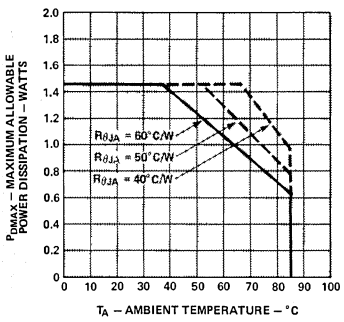

Figure 2. Maximum Allowable Power Dissipation vs. Temperature
2. The device should be derated linearly above 37°C at 16.7 mW/°C. This derating is based on a device mounted in a socket having a thermal resistance from case to ambient at 35°C/W per device. See Figure 2 for power deratings based on a lower thermal resistance.
The HDSP-2310 series displays are available in standard ceramic dual-in-line packages. They are designed for plugging into sockets or soldering into PC boards. The packages may be horizontally or vertically stacked for character arrays of any desired size. HDSP-2310 series displays utilize a high output current IC to provide excellent readability in bright ambient lighting. Full power operation ($V_{CC} = 5.25V$, $V_B = 2.4V$, $V_{COL} = 3.5V$) with worst case thermal resistance from IC junction to ambient of $60^\circ C/watt/device$ is possible up to ambient temperature of $37^\circ C$. For operation above $37^\circ C$, the maximum device dissipation should be derated linearly at $16.7 mW/^\circ C$ (see Figure 2). With an improved thermal design, operation at higher ambient temperatures without derating is possible.